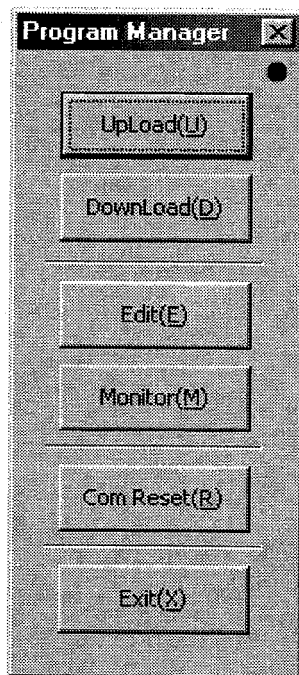

Figure 7.34 “Program Manager” dialog box
Click “Program (G)” under “MainMenu” to display the “Program Manager” dialog box (see Figure 7.34).